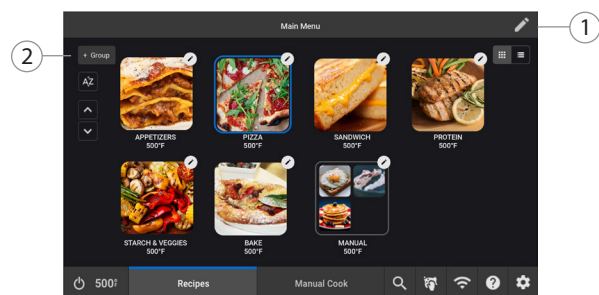

Figure 22: Edit Mode: Create Group
1. Touch the Edit button in the top-right corner of the screen (Figure 22, above).
2. Touch the “+Group” button (Figure 22, above).